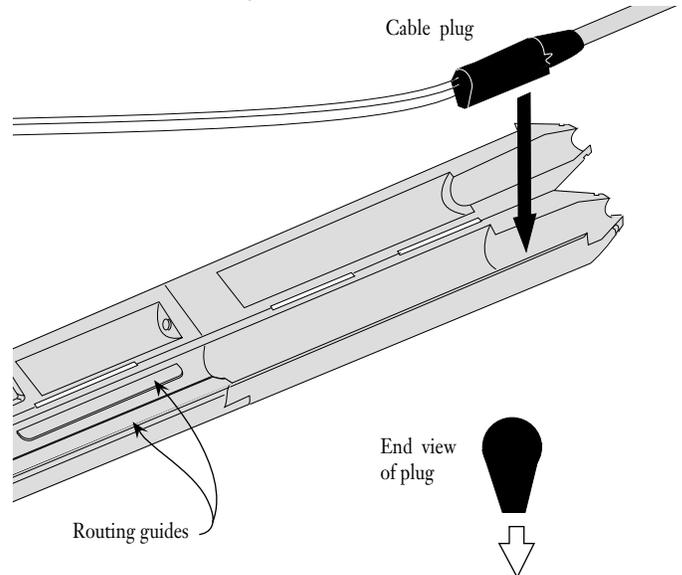

Figure 18
6.3 Place the cable plug in the side of the grip which has the leg routing guides, with the plug's V-shaped side secured in its slot (Figure 18).